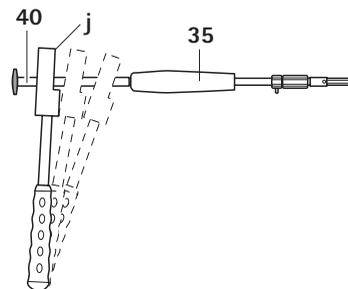

Fig. 21 Revision instrument for endplates with handle and slotted hammer
- ▶ Screw handle **41** onto handpiece **35** of the revision instrument, see Fig. 21.